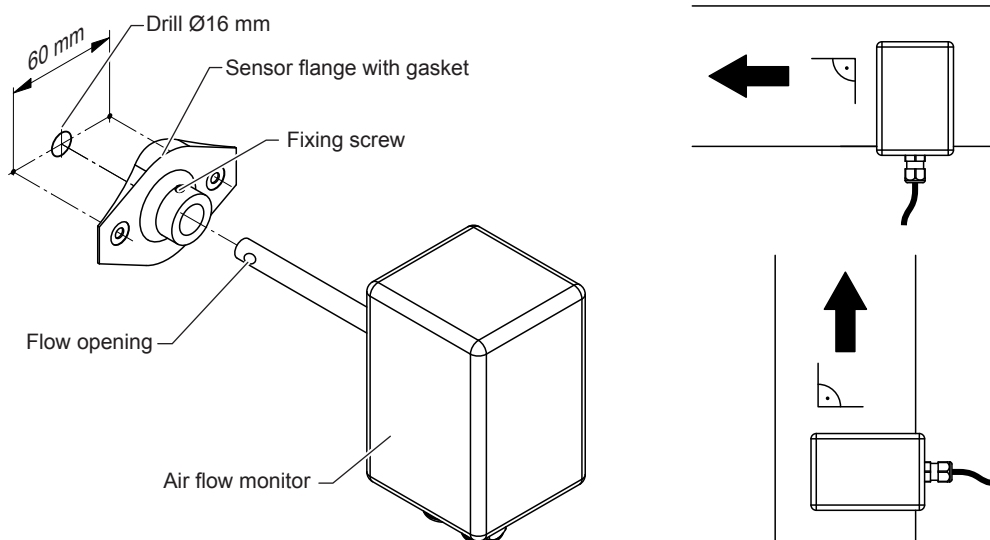

Fig. 24: Mounting the airflow monitor
3. Insert the probe of the air flow monitor into the sensor bracket until it comes to a stop. Align flow opening exactly with the air flow. The flow opening has been aligned with the air flow when the long side of the sensor housing is at a right angle to the direction of air flow (see Fig. 24). Then secure the airflow monitor with the fixing screw.